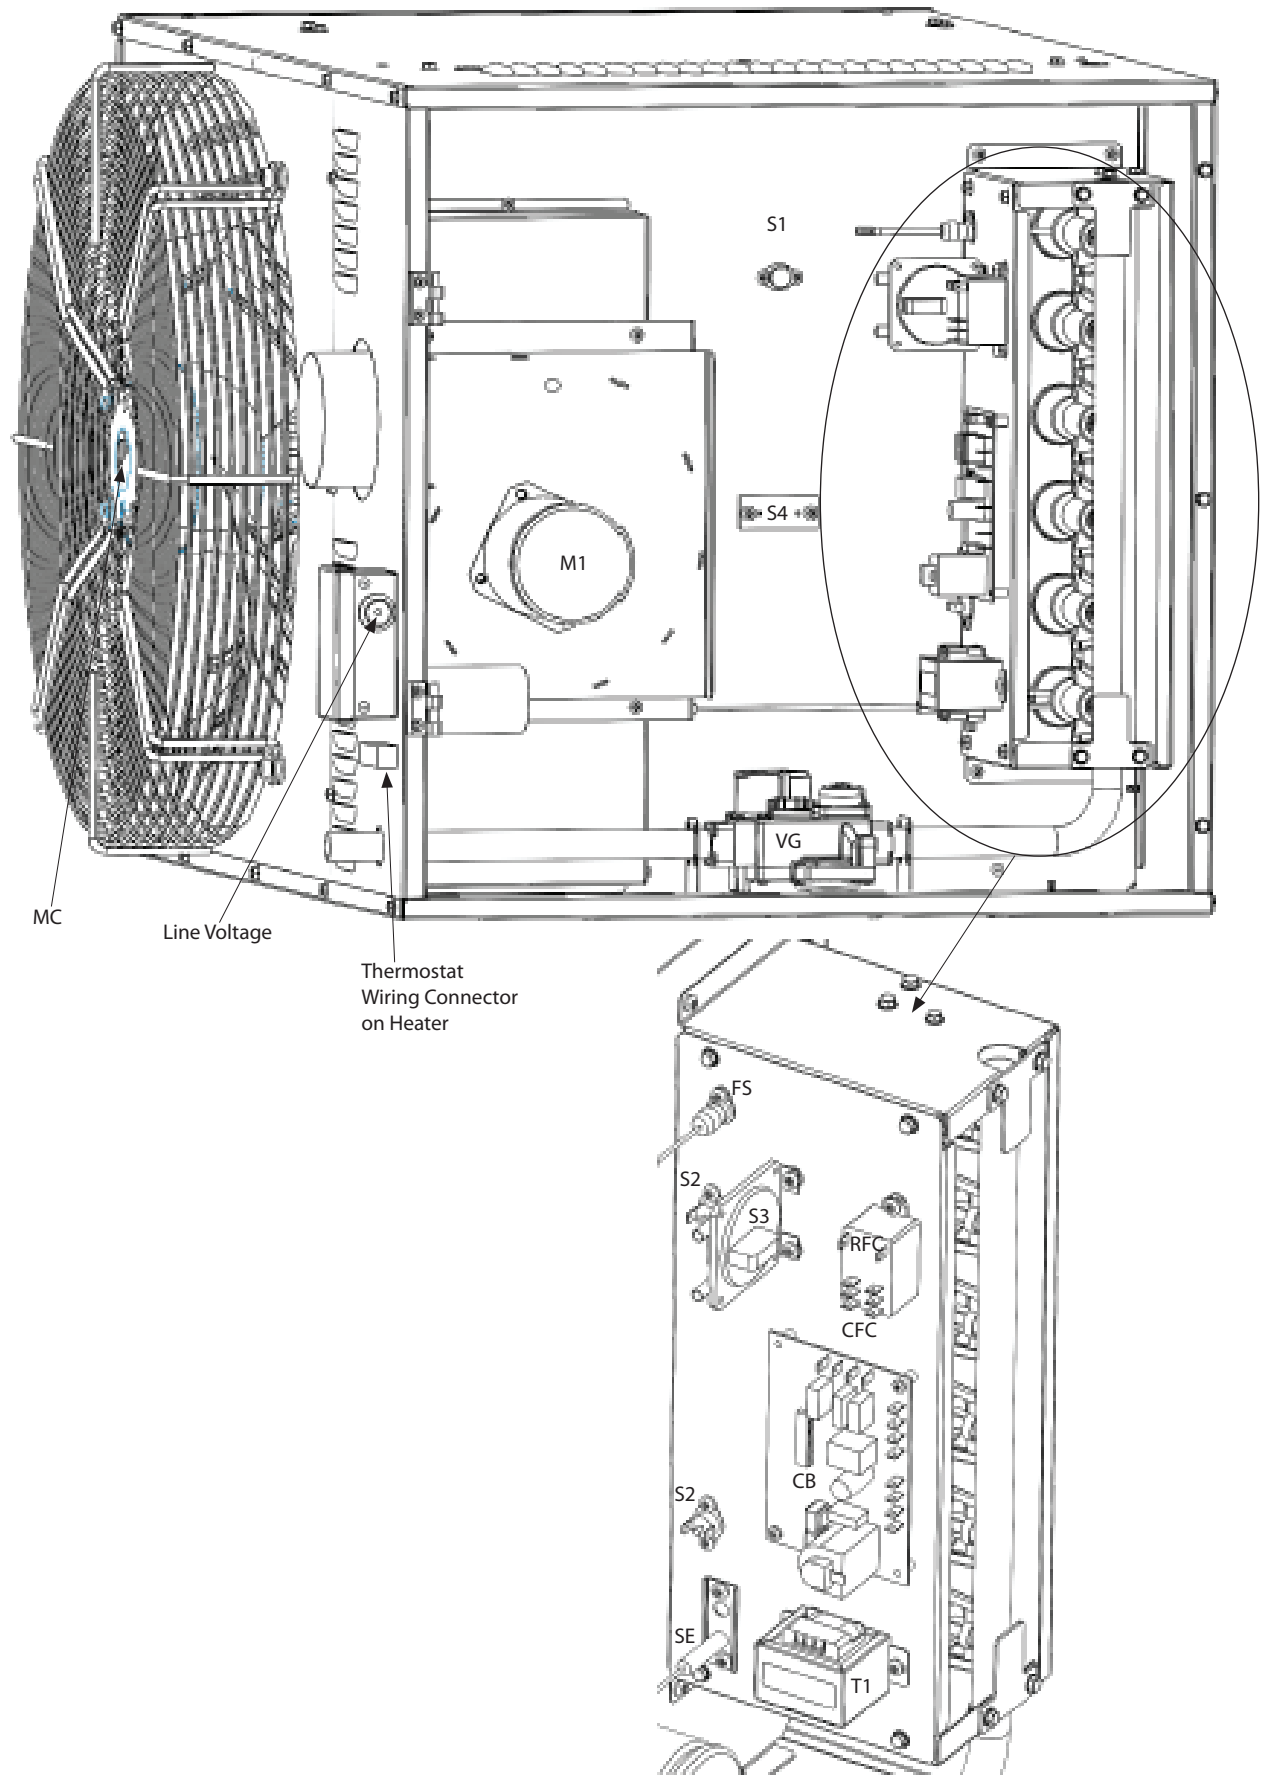

FIGURE 10
- Make line voltage connections as shown in Figure 10. Connect field wiring as shown on wiring diagram on unit. Also, refer to typical diagram in this manual.